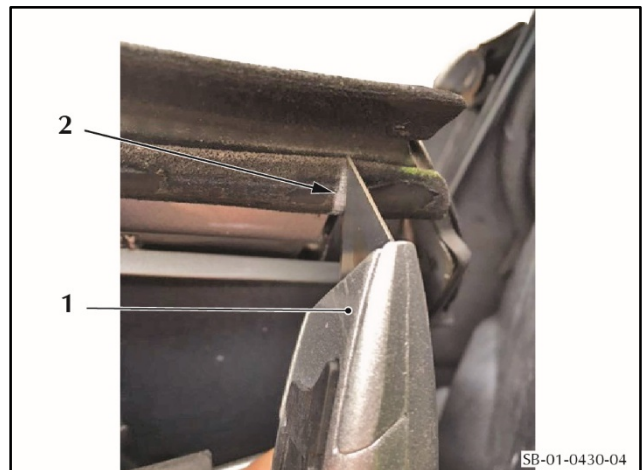

Figure 4
4. Use a sharp knife (1) to carefully cut down the mark (2) that you made in step 3 (refer to Figure 4).